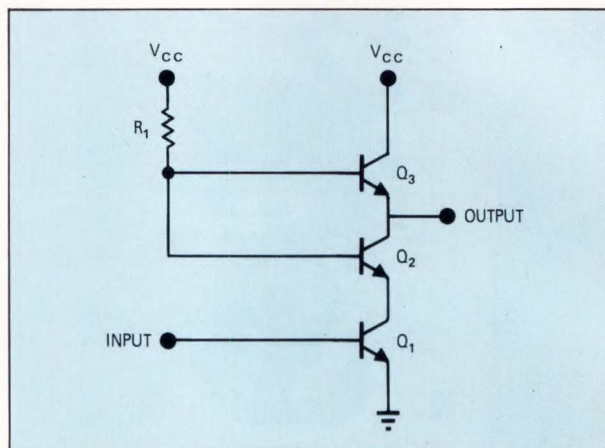

Fig. 1— Q_3 and Q_2 cannot conduct at the same time if they are selected so that $V_{BE_{Q3}}$ is equal to or greater than $V_{BE_{Q2}}$.
Before getting to the specific configurations, let's look at what the designers have had to work with. **Fig. 1** shows the four main elements that any moving-magnetic-medium memory must have in one form or another:
Fig. 1—Where the system is split. All "moving-magnetic-medium" memory systems have the same basic elements: (A) tape storage, (B) mechanical motion, (C) signal communication and (D) unit control. Where they differ is in the line of demarcation be-
The basic circuit is shown in Fig. 1. When Q_1 is saturated, the emitter-to-collector voltage is typically 0.1V, making the collector voltage of Q_1 approximately 0.1V. Similarly, Q_2 also becomes saturated and has a typical emitter-to-collector voltage of 0.1V, making the collector voltage of Q_2 approximately 0.2V (the output voltage).
Fig. 3—When the push-pull circuit of Fig. 1 is added to the inverter of Fig. 2, rise time is significantly improved since Q_3 , not R_1 , supplies current to the load capacitance.
The circuit, shown in generalized form in Fig. 1 multiplies an input signal by plus or minus one and then by $H(s)$, a frequency selective gain function. The sign is selected by means of a control input. If the sign control input is reversed at each of the zero crossings of the signal input, a full wave rectified version of the input signal is produced.
Fig. 1—The basic circuit is easily adapted for use as a modulator, demodulator, operational rectifier or a lock-in amplifier. Normally the transfer function is determined by Z_1 , Z_2 , Z_3 and Z_4 , with the sign determined by a control input Z_5 . e_d is the amplifier offset.
The portion of Fig. 2 above the "common" line is the balanced modulator with the numerical subscripts for the components being the same as the respective generalized impedances in Fig. 1. Note that Q_5 is an inverted mode transistor switch replacing Z_5 . The other half of the dual op-amp is used as a zero crossing detector which drives Q_5 through resistors R_6 and R_7 .
Fig. 2—Using an inexpensive dual IC op-amp makes a simple balanced modulator and zero-crossing detector. Q_5 is an inverted mode transistor replacing Z_5 of Fig. 1 and is driven by the zero-crossing detector (lower op-amp) through resistors R_6 and R_7 . The optional components provide additional high-frequency filtering.
A second source of output offset error is due to i_b , the amplifier input current. The output voltage offset due to input current is affected by the action of the chopper Q_5 . Referring again to Fig. 1, when $Z_5 = 0$, the current into the non-inverting input does not develop a corresponding offset voltage. When $Z_5 \rightarrow \infty$, however, this current produces an offset which is proportional to R_1 . This modulated offset voltage will, of course, be amplified and appear in the output signal. Since this signal alternates between 0 and $i_b R_1$ in synchronism with Q_5 , the output offset has a low frequency value which is half the peak (if a symmetri-